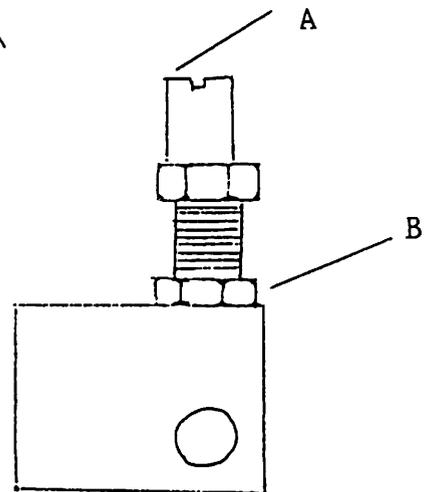

Fig. 24
- b) Fine adjustment of counter blade stroke can be obtained by loosening nut B Fig. 24 and turn eccentric screw A Fig. 24 as location of blade at stationary position is being changed. Securely tighten nut B.